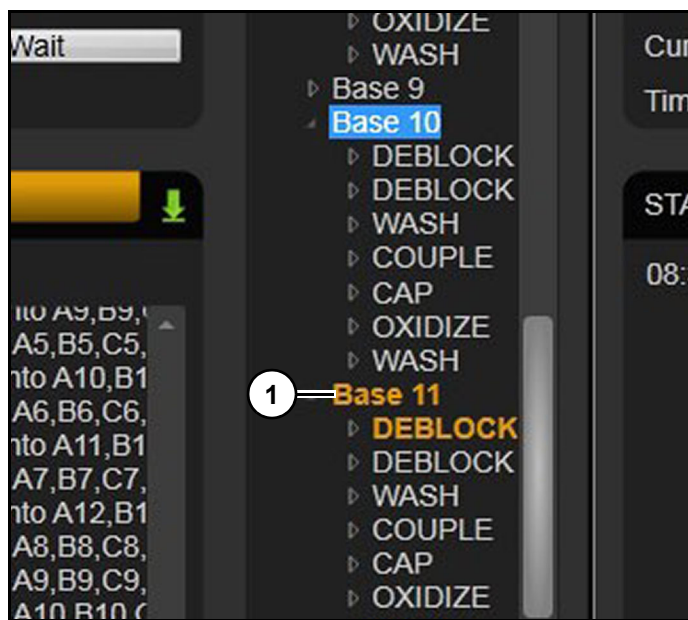

Figure 89
Once a pause is initiated, location of pause will be highlighted orange (1). (Figure 89)